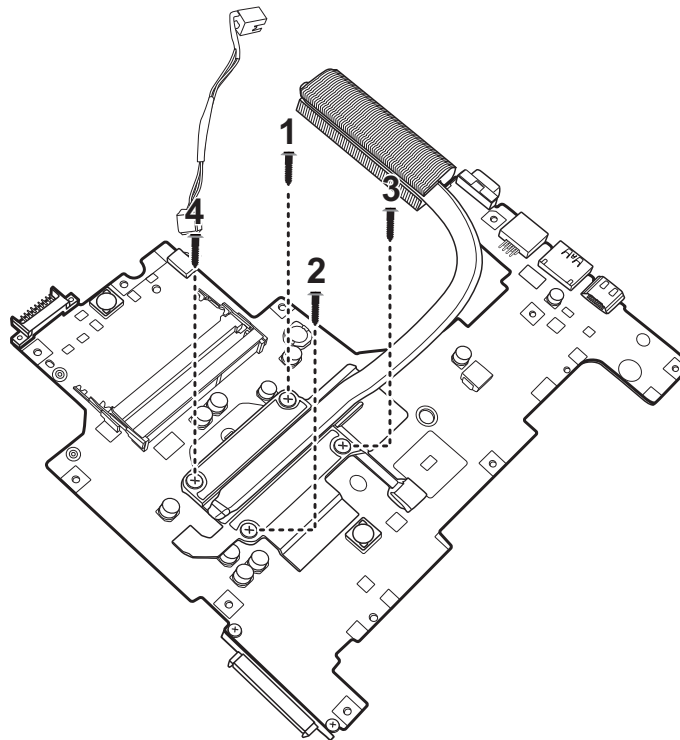

Figure 4.34 Removing the Thermal Module spring screws
Remove the CPU thermal module according to the following procedures and Figures 4.34 and 4.35.
1. Remove the four spring screws securing the thermal module in the sequence indicated in Figure 4.34.